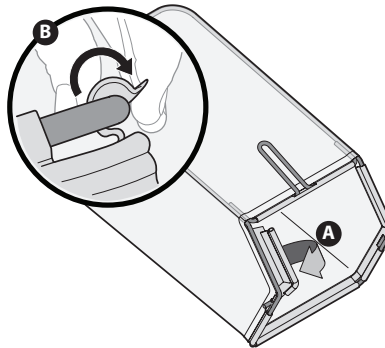

Figure 2-6
1. Follow steps below to assemble the grass catcher (if needed). Make certain bag is turned right side out before assembling (warning label will be on the outside). See Figure 2-6.